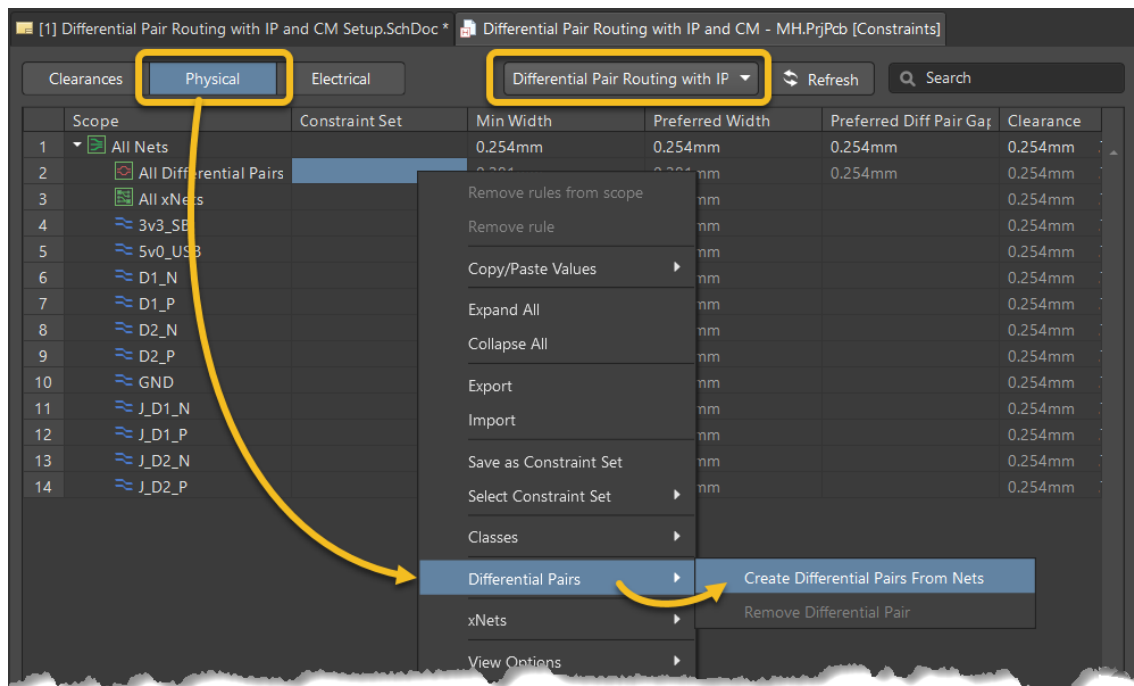

Figure 3. Constraint Editor - Physical View, ready to create Differential Pairs
19. Right-click anywhere in the grid area and select **Differential Pairs » Create Differential Pairs From Nets** from the context menu, Figure 3.